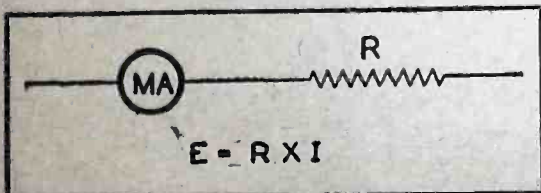

Fig. 2
A high resistance voltmeter may be improved by employing a low reading D.C. milliammeter in conjunction with an external series resistance, as shown here-with in figure 2. The principle covering the design of this combination is that the voltage across two points in a circuit may be interpreted by the current flow in the circuit, when the circuit resistance is known. A current indication on a current meter connected in series with a known resistance may be interpreted in voltage, by applying Ohm's law for voltage. The current meter indicates the current, the resistance is known, and the product of current (I) x resistance (R) is equal to voltage (E). This is the basis for the frequently suggested 1000 ohms per volt voltmeter for the measurement
of power B unit output voltages, consisting of a 1 milliamper D.C. milliammeter connected in series with a 500,000 ohm resistance to produce a voltmeter with a maximum range of 500 volts. The value of external resistance R in figure 2 for